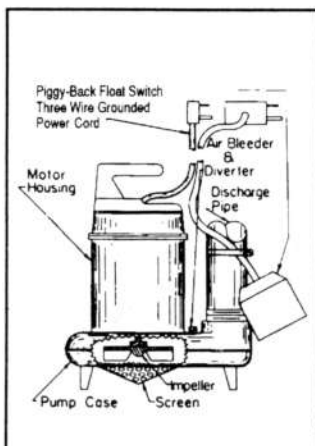

Figure 3
2. The *submersible* type employs a watertight submersible motor coupled directly to the pump casing and is designed to be completely hidden within the sump. See Figs. 3 - 6.
Sump pumps are made to be both automatic (with liquid level control manufactured within the pump and manufactured with the switch as an extra float switch - see Fig. 3.) and non-automatic (manually controlled). In most domestic applications the automatic version is desirable, since it will operate even during the family's absence. Control types are float, diaphragm and electrode. Remember that long discharge lines, piping elbows and fittings tend to add friction head loss to the vertical lift of the pump, and thereby reduce pump output capacity. Always select a pump that will give you a little more pumping capacity and head than your installation requires.